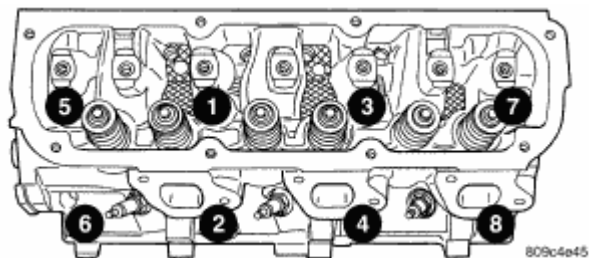

Fig. 75: Removing/Installing Cylinder Head Bolts In Sequence
5. Tighten the cylinder head bolts 1-8 in the sequence shown in **Fig. 75**. Using the 4 step torque turn method, tighten according to the following values: